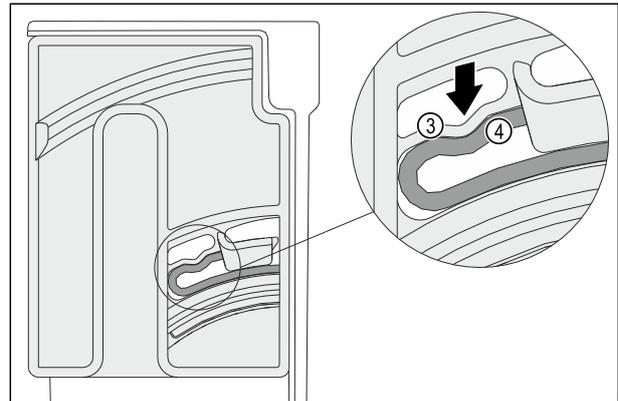

Fig. 120
- ▶ The elastic element Fig. 120 (3) of the turning unit audibly engages in the round shape of the rib Fig. 120 (4).